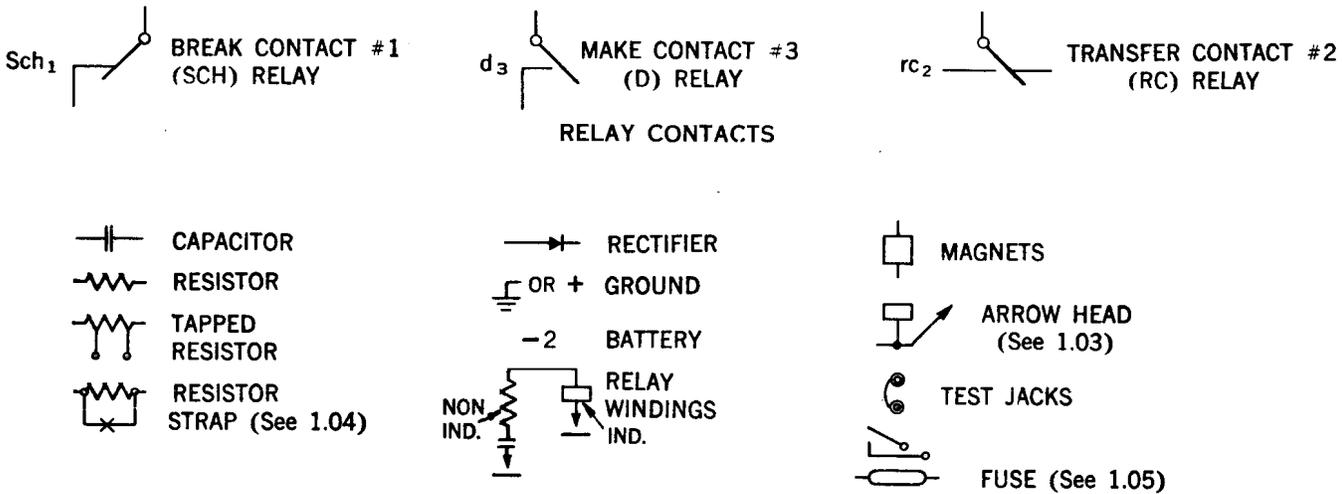

Fig. 2
found by following the direction of the arrowhead, in a straight line to its associated arrowhead (Fig 2).
1.04 Resistor strapping with an X on the strap as indicated on R2, R5, R11, R13 of S11840 and R1 of S11841 is used to indicate strap removal when 60-volt operation is used (Fig. 2). 60-volt operation is no longer used in the Bell System, it has been replaced with 72-volt to extend the dc range of the line concentrator. When 72-volt operation is used, strap removal on resistors R11 of S11840 and R1 of S11841 is required as indicated by the symbol ϕ .
1.05 Fuses are represented by an oval-shaped symbol (Fig. 2). The contacts shown above
1.08 Fig. 2 contains a list of designated symbols as used in the schematics.